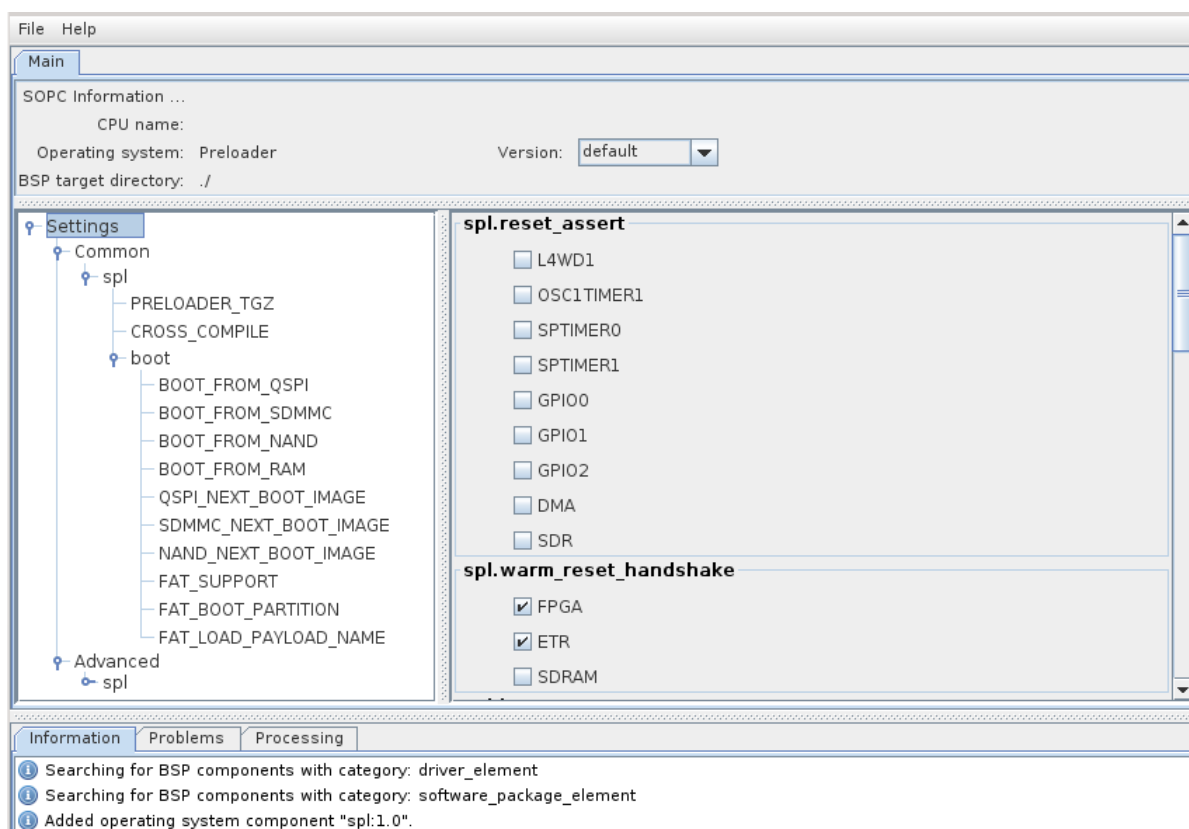

Figure 8-20. Preloader Settings Dialog
- c. Press the "OK" button. You should then arrive on a page with many settings, as shown on Figure 8-20. Take some time to read through them to see what the preloader has the ability to do.
4. On the main settings page of Figure 8-20, we will only need to modify 2 parameters for our design.